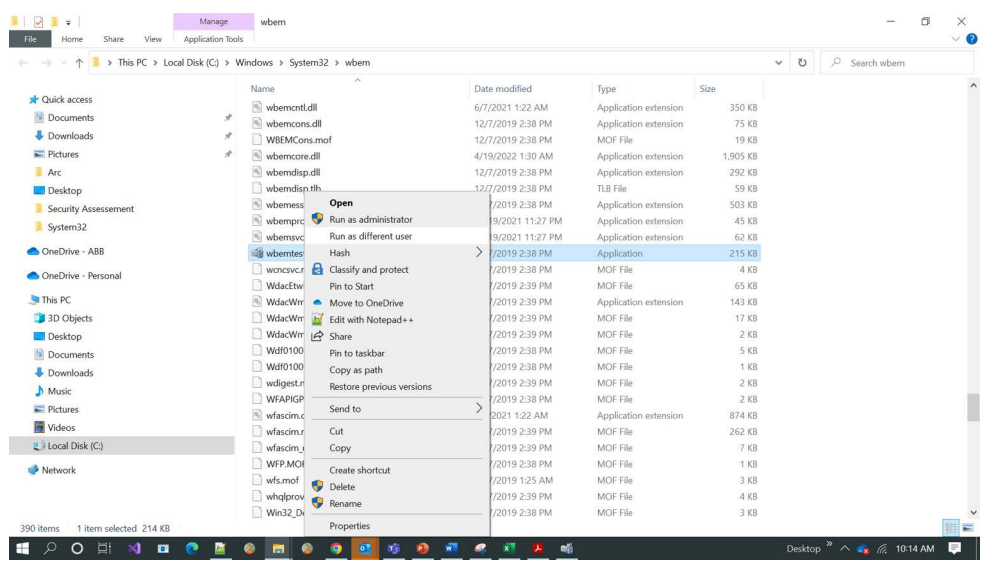

Figure 257. System32 Folder
1. In MCS-DC launch node, Go to the system32 folder and select wbmtest.exe application. Hold Shift and Right-click, which brings up the "Run as different user" as shown in Figure 257.